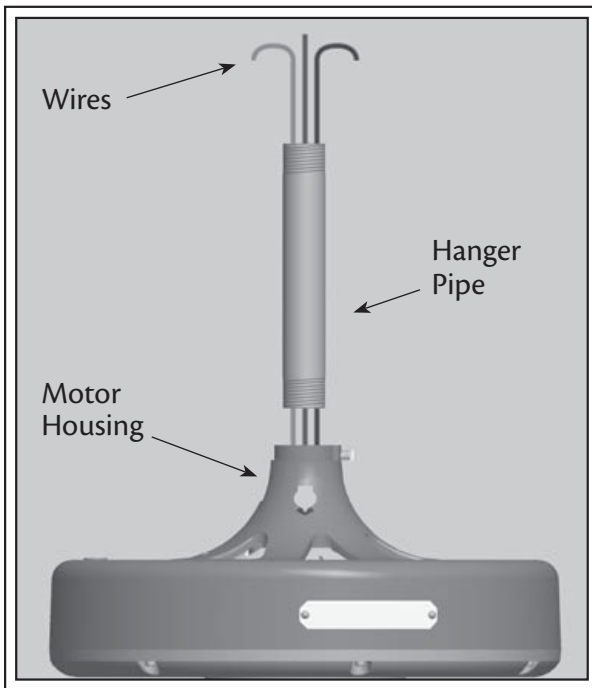

Fig. 3
1. Feed the wires from the top of your motor through the hanger pipe (see Fig. 3).